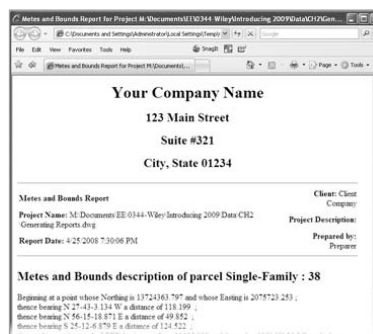

Figure 2.11
6. IE should launch and display the report shown in Figure 2.11.
Although the report and the data created were just fine, it has a generic Your Company Name heading (as shown in Figure 2.11). So, in the following exercise, you'll make the quick change required there before moving on to the other report you're going run: